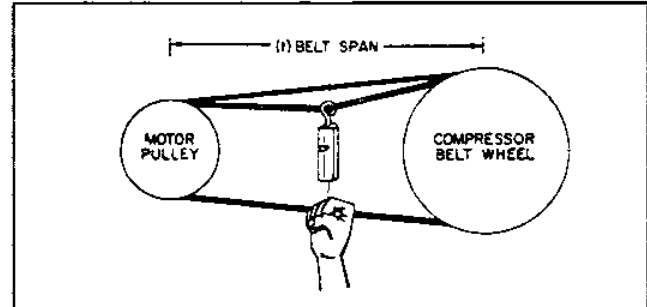

Figure 6-6. Spring Scale Method.
- A. Measure the belt span (t) as shown in Figure 6-6.